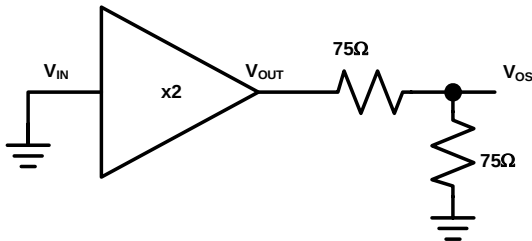

FIGURE 1.  $V_{OS}$  MEASUREMENT CONDITIONS
- Offset measurements are referred to  $75\Omega$  load as shown in Figure 1.